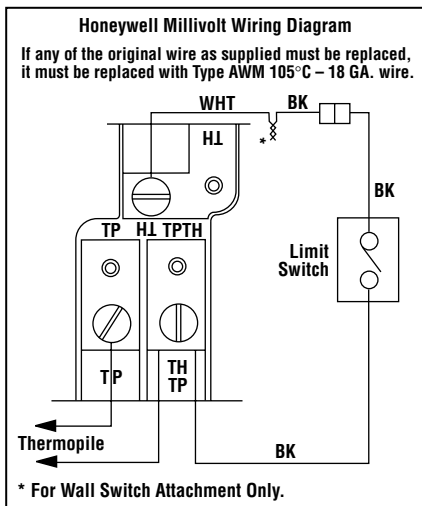
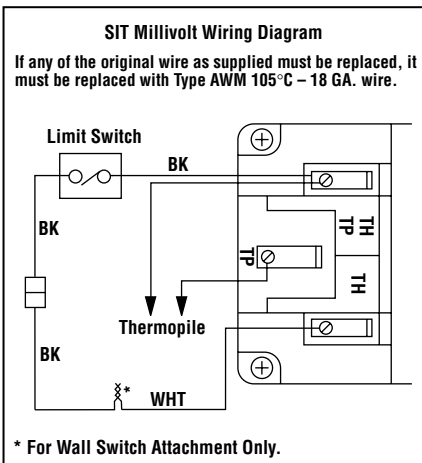

Figure 12
Figure 13
A. Millivolt Wiring – Units may be fitted at the factory with either a Honeywell millivolt gas control valve or an SIT millivolt gas control valve. Both valves have been tested with and approved for use with these appliances and are listed accordingly. Refer to **Figure 12** for wiring of Honeywell systems and **Figure 13** for wiring of SIT systems.
The gas valve has been set in place and has been pre-wired at the factory. No additional wiring is required unless the optional wall switch or optional remote control kit is to be installed. Locate the optional wall switch or optional remote control in the desired location and connect the millivolt wire (**see Figures 12 and 13**).